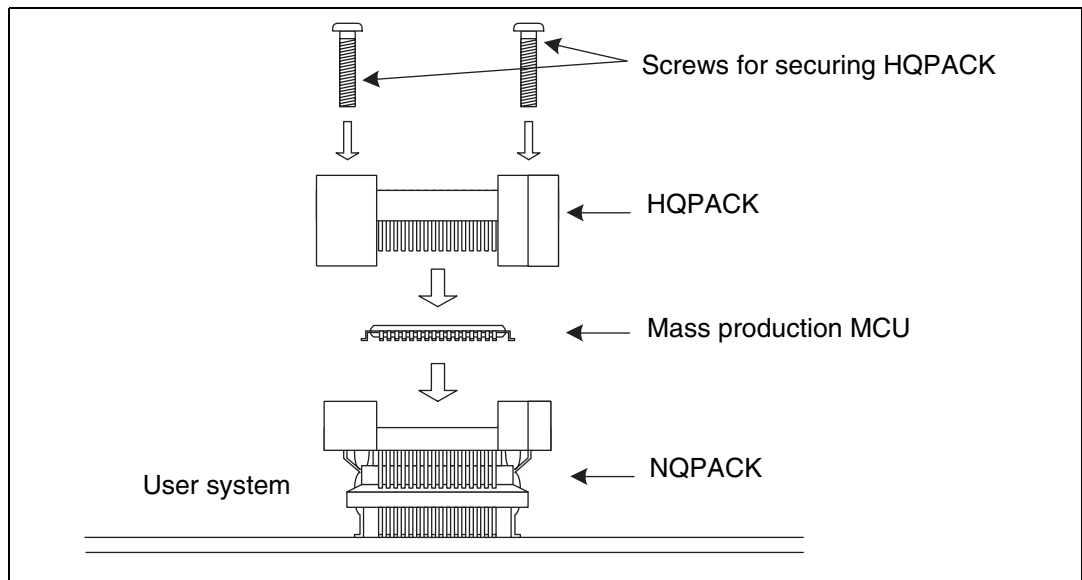

Figure 5 Mounting a mass production MCU
2. Confirm that the mass production MCU is correctly mounted on the NQPACK. Next, insert the HQPACK into the NQPACK matching the notch of HQPACK to that of NQPACK (see Figure 5). The pin of HQPACK is thin and easy to bend. Insert NQPACK after confirm that the pin of HQPACK is not bent.